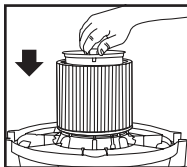

FIGURE 16
21. Place filter retainer into the top of the cartridge filter. **FIGURE 16.**